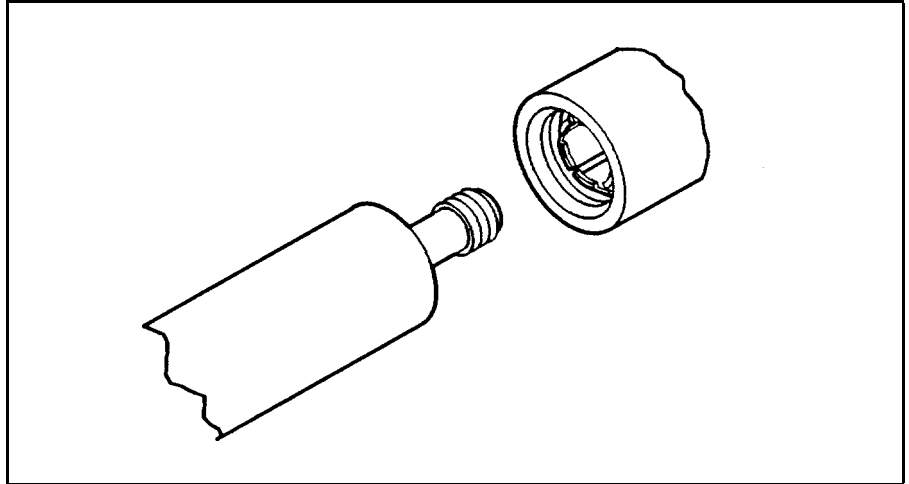

Figure 2-6. Inserting the Removal Tool
- a. Under magnification, carefully try to insert the removal tool (see Figure 2-6).